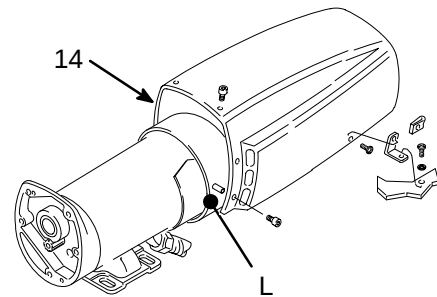

Fig 13
2. Remove the motor shield (14). Remove both inspection covers and gaskets (L). See Fig 13.